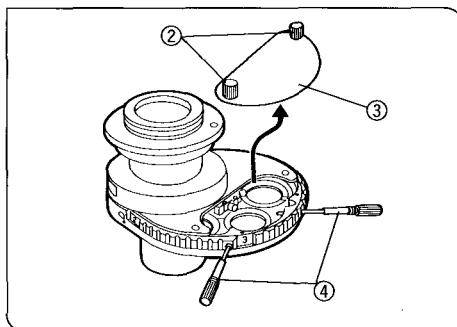

Fig. 22
(Figs. 22 – 26)
1. Position the condenser as shown in Fig. 22. Loosen the two clamping screws ② and remove the cover ③.
3. Put the turret insert centering wrenches ④ into the designated insert centering holes and turn the wrenches counterclockwise. (Fig. 22)